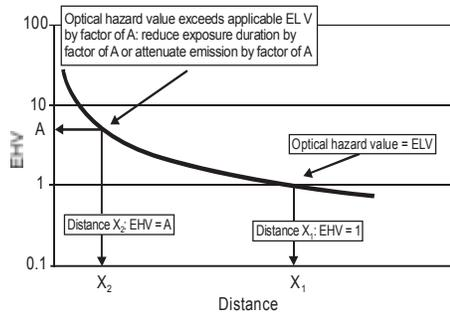

Figure 1 – Example of graphic presentation of distant dependent emission hazard values
With increasing distance from a lamp the applicable hazard values decrease - see Figure 1. At the distance X1, EHV = 1, i.e. the EHV equals the applicable emission limit value. Distance X1 is the hazard distance (HD) for this lamp system. At distance X2, the optical radiation hazard value exceeds the applicable emission limit value by a factor of A. At this distance, excessive exposure to optical radiation may be reduced either by restricting exposure time by a factor of A (if the emission limit values are expressed in terms of radiant exposure or time integrated radiance), or by using engineering controls (such as filters) which attenuate